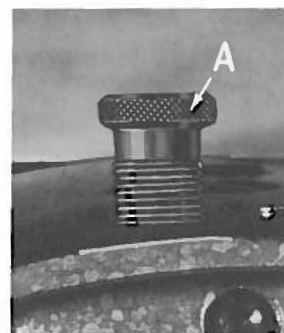

Fig. 10
The presser spring should exert only enough pressure to make the work feed uniformly. To increase the pressure on the presser foot, turn presser spring regulator (A, Fig. 10) in clockwise direction. Turning the regulator counterclockwise decreases the pressure.
To obtain this setting, remove the pressure from the presser spring (F) and loosen set screw (C). Tap on presser foot to insure its being down on the throat plate. Set the guide to the 4 3/4 inch dimension, center the foot by turning it so that the needle enters the middle of its slot and retighten screw (C) in guide. Now, apply pressure to the presser foot by turning the regulator (A, Fig. 10) clockwise.